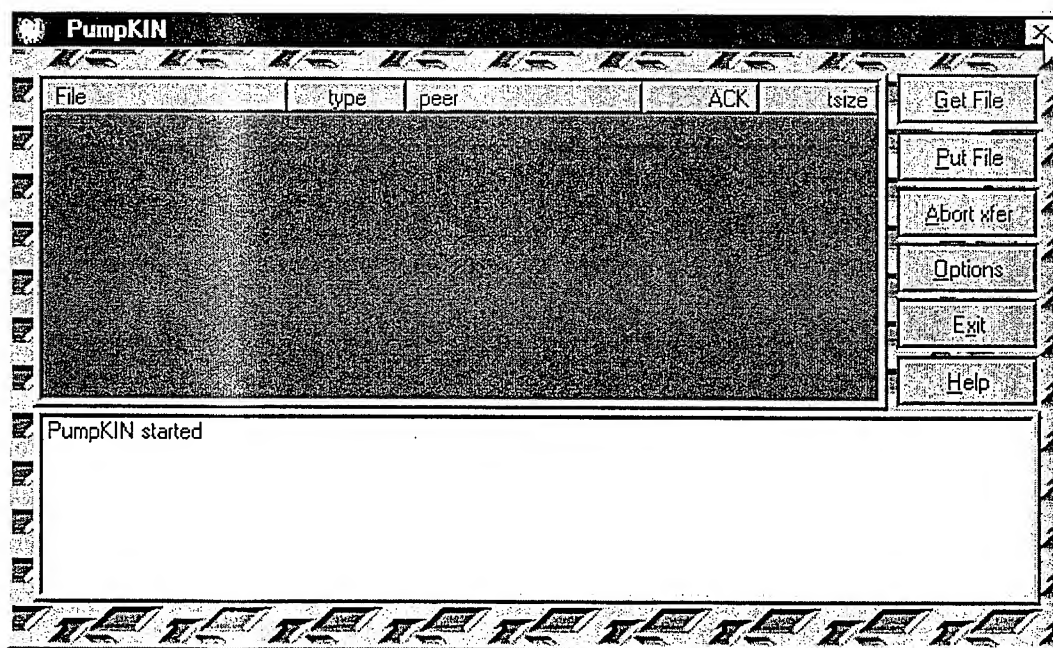

Figure 37. Pumpkin TFTP Client Close Button
4. If the Pumpkin window opens, click the X in the top right corner to close the window. This leaves the program running in the background (see Figure 37).